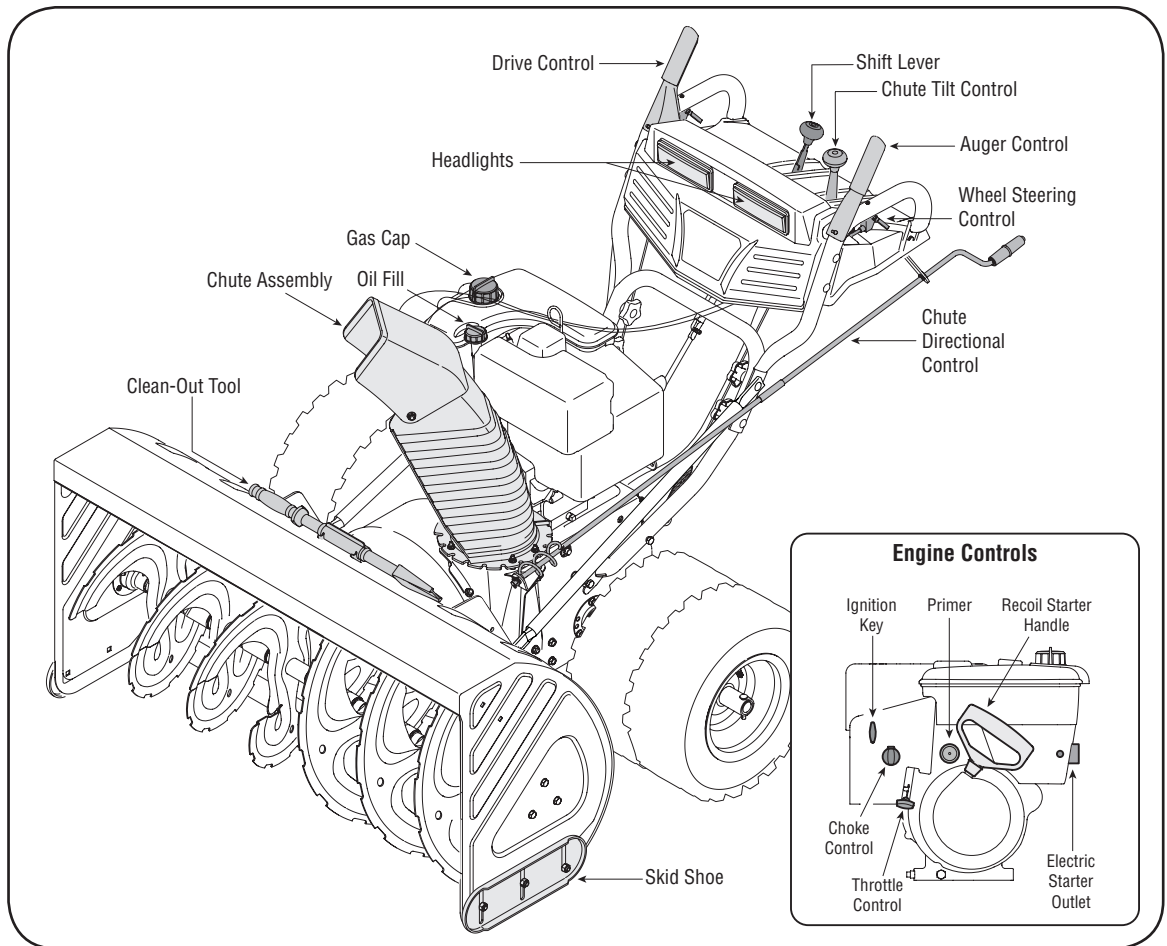

Figure 4-1
- To turn the unit left or right, squeeze the respective wheel steering control. See Figure 4-1.